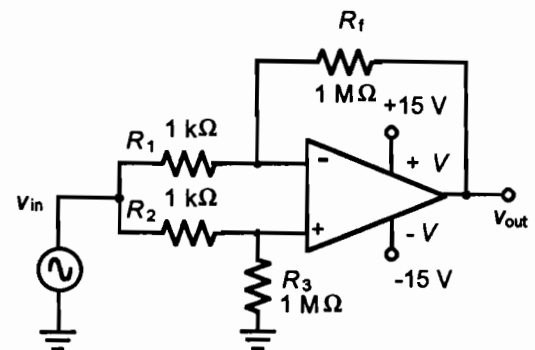

Figure 44.3
1. Connect the circuit in Figure 44.3.
2. Calculate the differential-mode gain (A) using the following formula: